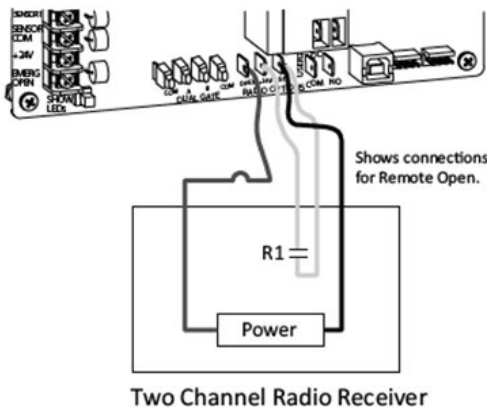

Figure 19. Radio Receiver Connections
1. Route the wires to the area marked **RADIO OPTIONS**. Only three wire connections are needed because the common wire and one radio output wire are connected together. Figure 19 shows additional wires from a two-channel receiver.